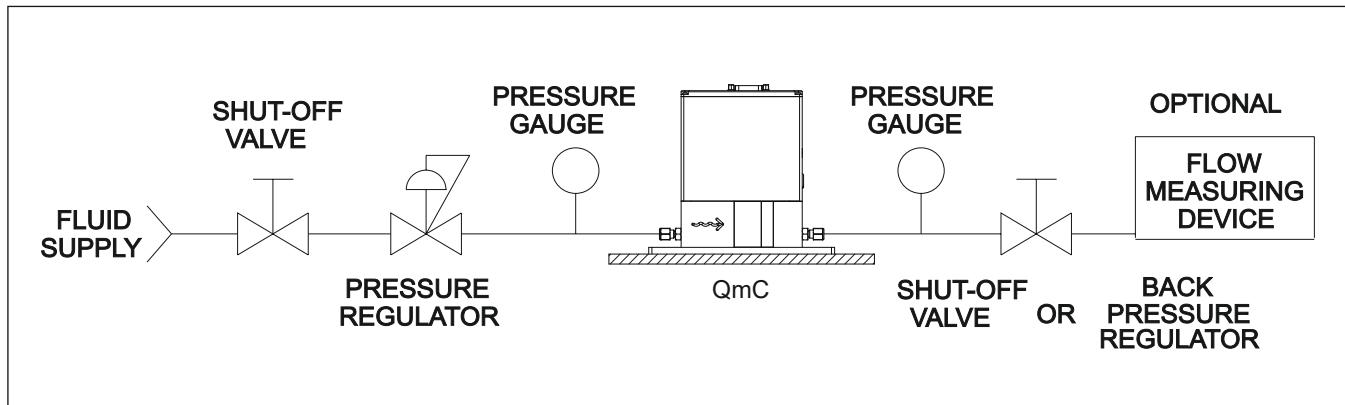

Figure 4-1 Bench Troubleshooting Circuit
**Quantim Bench Testing (Refer to Figure 4-1)**